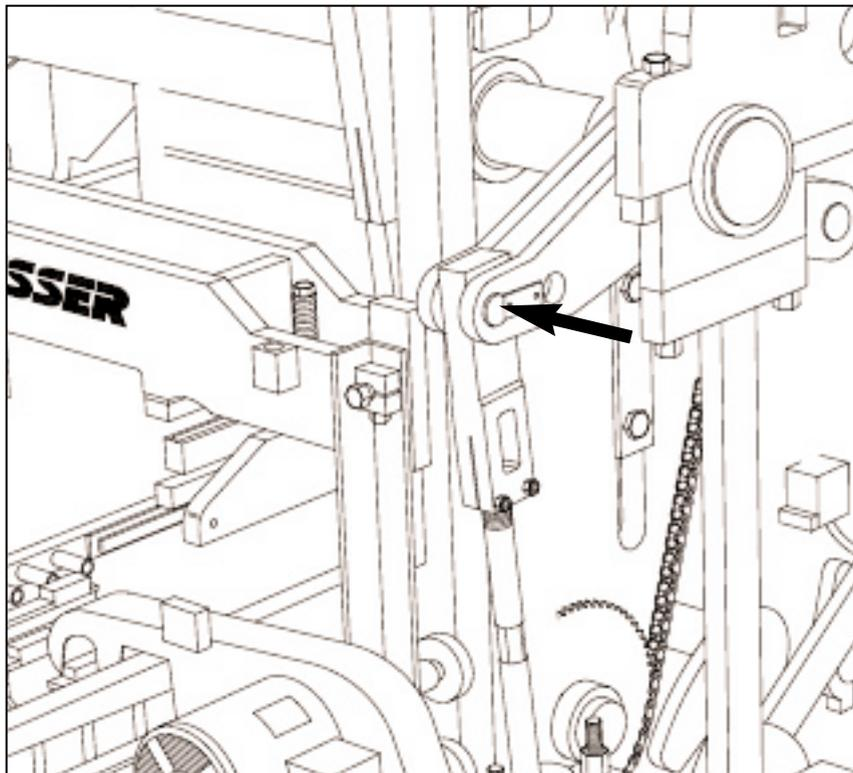

Figure 18.37 PALLET RECEIVER SHAFT POSITION.
18.3.1 The following items should be positioned as shown in figures 18.37 and 18.38:
- a. Pallet receiver shaft - position pins in outside holes (long stroke) (see figure 18.37 below).